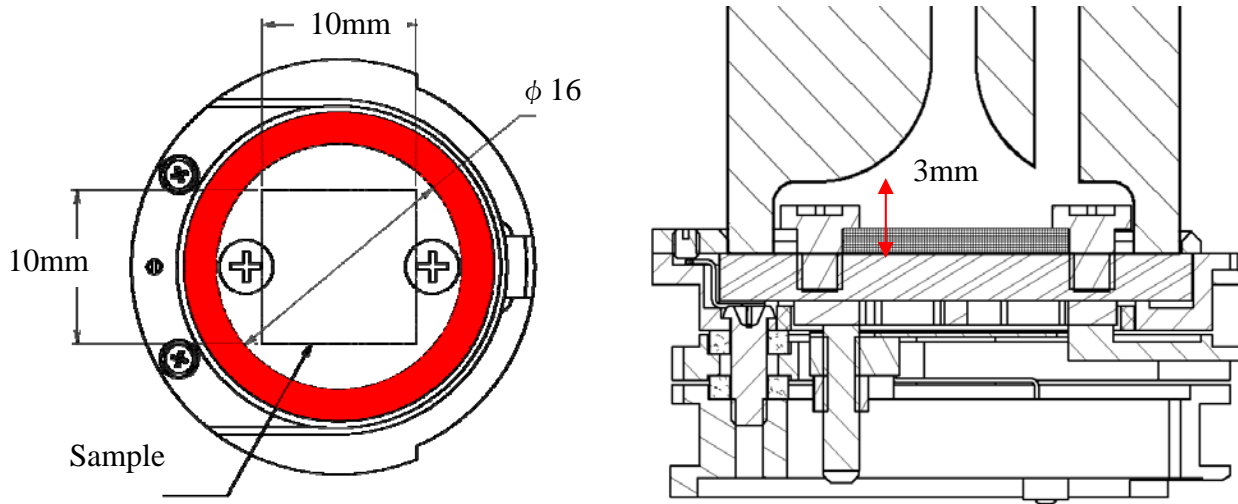

Figure 3-17. The sample platen and sample.
*be take to remove electrostatic adsorbate. (The sample platen for the reactor vessel is shown in Figure 3-17.)*